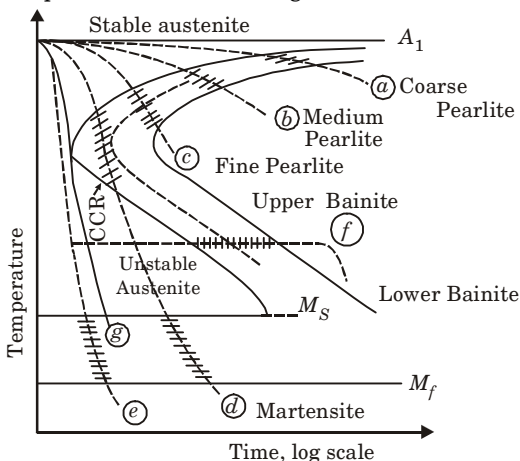

Fig. 3.6.1. Cooling curves and TTT diagram.
1. The different types of cooling rate give the formation of different types of reaction products as shown in Fig. 3.6.1.